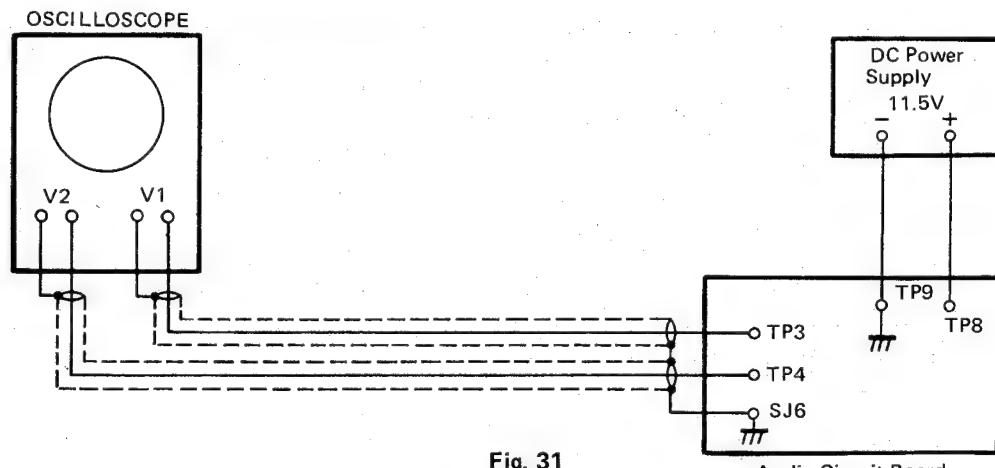

Fig. 31
- Set up Oscilloscope and DC power supply as shown in Fig. 31.